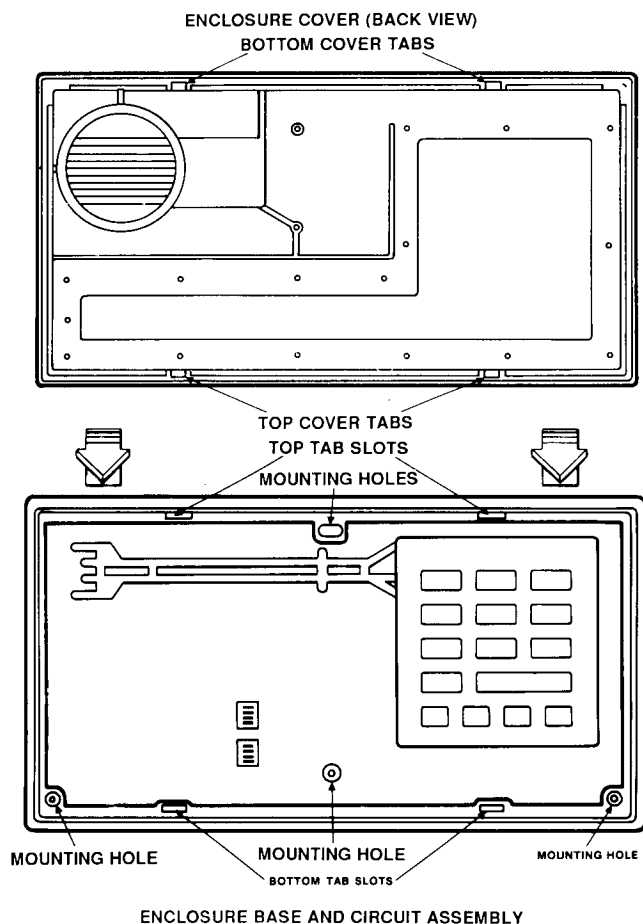

**Figure 14: D620/D630 CIRCUIT BOARD REFERENCES**
**NOTE:** Protective zones B and C have jumpers that must be cut before wiring zone inputs. If using protective zone B, cut the yellow (W3) jumper. If using protective zone C, cut the blue (W4) jumper (see Figure 14). Do NOT cut these jumpers if the protective zones are not used. Do NOT wire protective zones with end-of-line resistors if the protective zones are not used. Zone A does not have a cuttable jumper, and requires an end-of-line resistor even if the zone is not used.